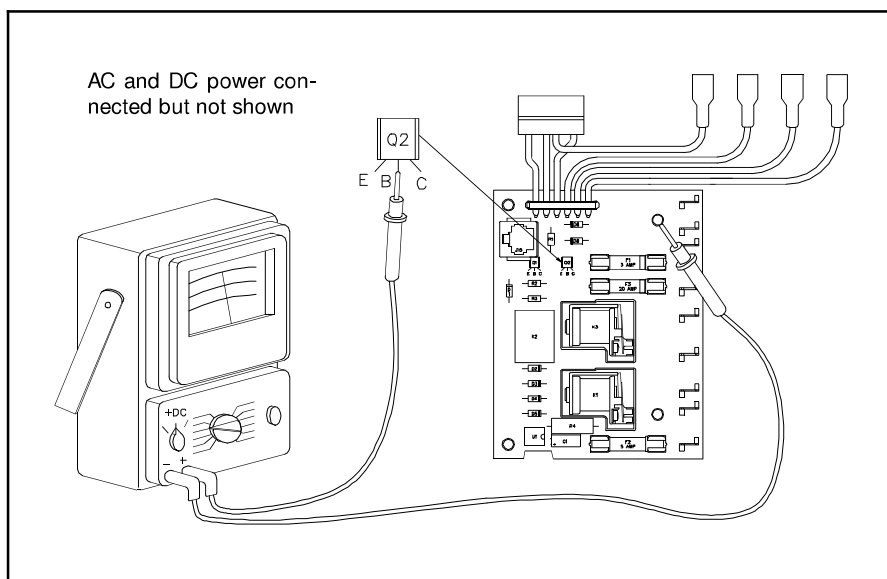

Figure 11.38 12 Volt Check at Q2 Base
11. With Mode Selector at GAS and 12 Volts present at the emitter of Q2, check for 10 volts DC at the base of transistor Q2 on the Power Supply as shown by Figure 11.38. If you do not have 10 volts the Power Supply is defective and must be replaced.